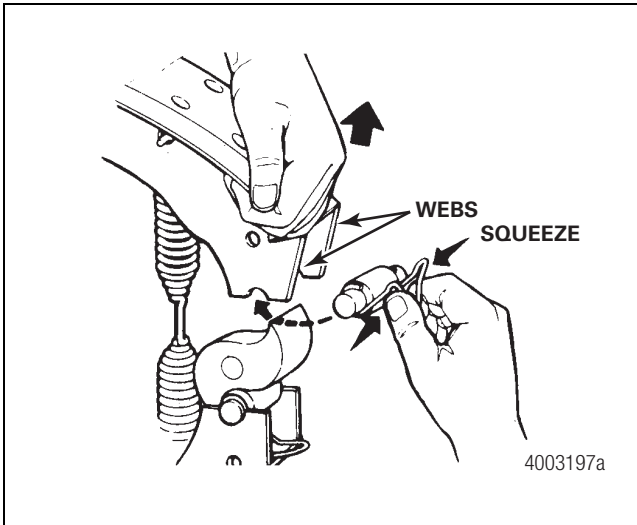

Figure 5.5
- Pull each brake shoe away from the cam permitting enough space to install the cam rollers. Press the ears of the roller retainer clip together to fit the retainer between the brake shoe webs. Figure 5.5.